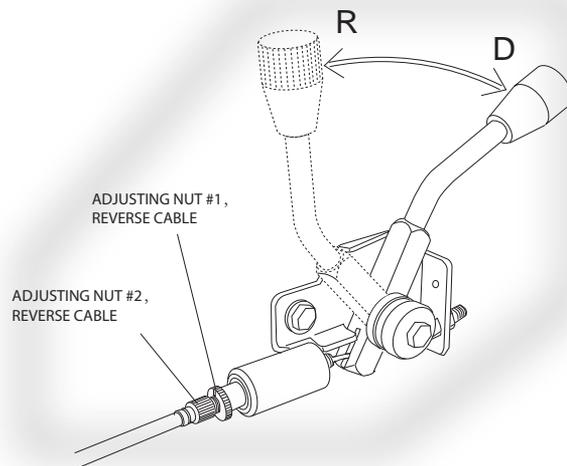

Figure 4
- a. Push forward the reverse lever to the "D" position so that the unit can move forward, pull back the lever to "R" so that the unit can move backward. (See Fig.4)